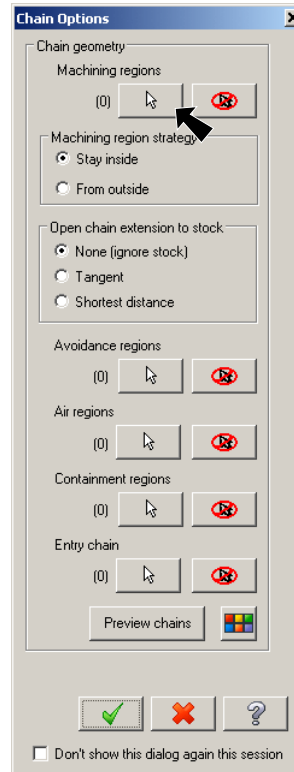

Fig. 32
Step 3. Select **Machining regions**  button in Chain Options dialog box, Fig. 32.